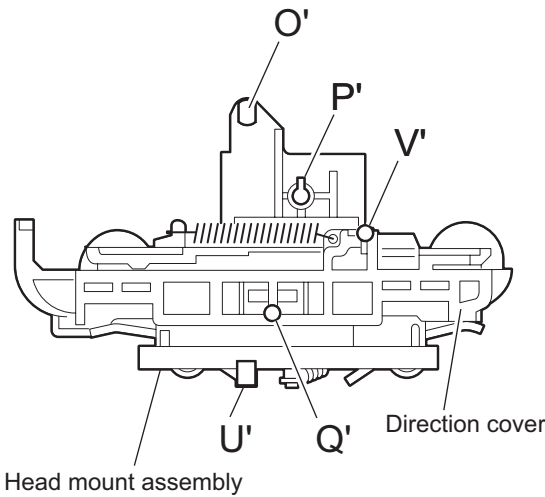

Fig.11
(See Fig.11~13)
- (1) Reattaching the head mount assembly.
- b) Fit the bosses **O'**, **P'**, **Q'**, **U'** and **V'** on the head mount assembly to the holes **P** and **V**, the slots **O**, **U** and **Q** of the mechanism sub assembly (See Fig.11 to 13).